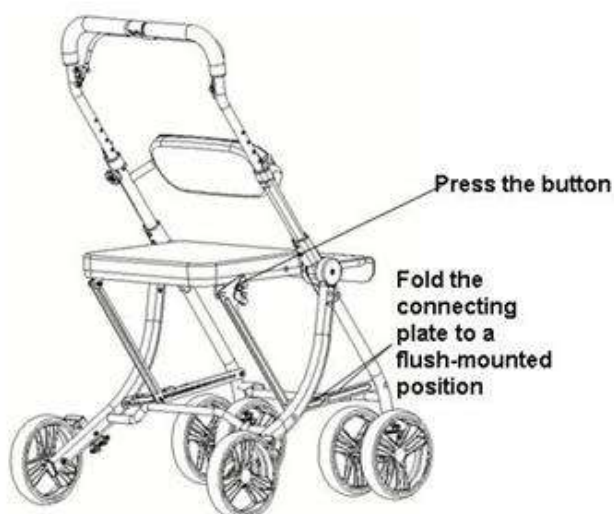

Figure 2
- At this point, the two folding plates underneath should be aligned (see Figure 2), confirming that the cart is fully opened. *(For clarity, the image does not show the shopping bag.)*
While folding, hold the handle with one hand and press the release latch inward with the other hand. Then firmly pull the seat upward to complete the folding process, as shown in Figure 2.